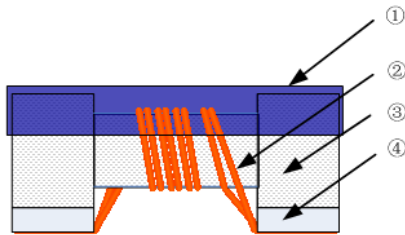
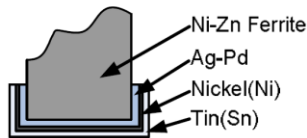

Fig.4-1
Fig.4-2
- e) Structures: See **Fig.4-1**, **Fig.4-2** and **Table 4-2**.